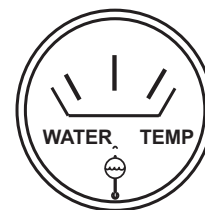

Figure 34. Coolant Temperature Gauge
14. The coolant temperature gauge (Figure 34) will indicate the coolant temperature. Under normal operating conditions the coolant temperature should be between 165 and 215 degrees Fahrenheit (Green Zone).